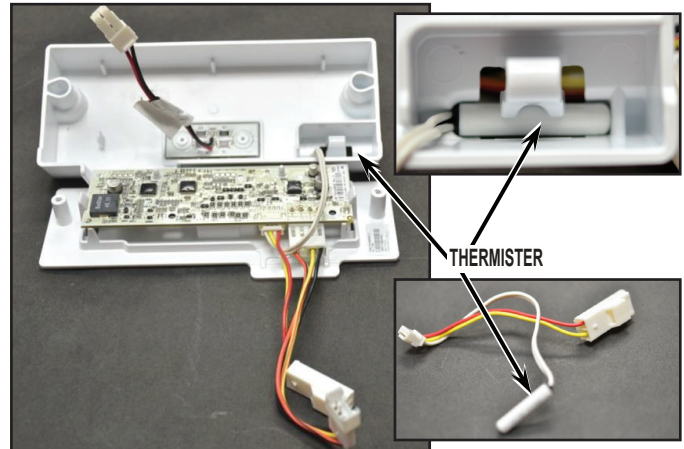

FIGURE 22
9. Disconnect wire harness. Release thermistor locking tab and remove thermistor. See *Figure 22*.